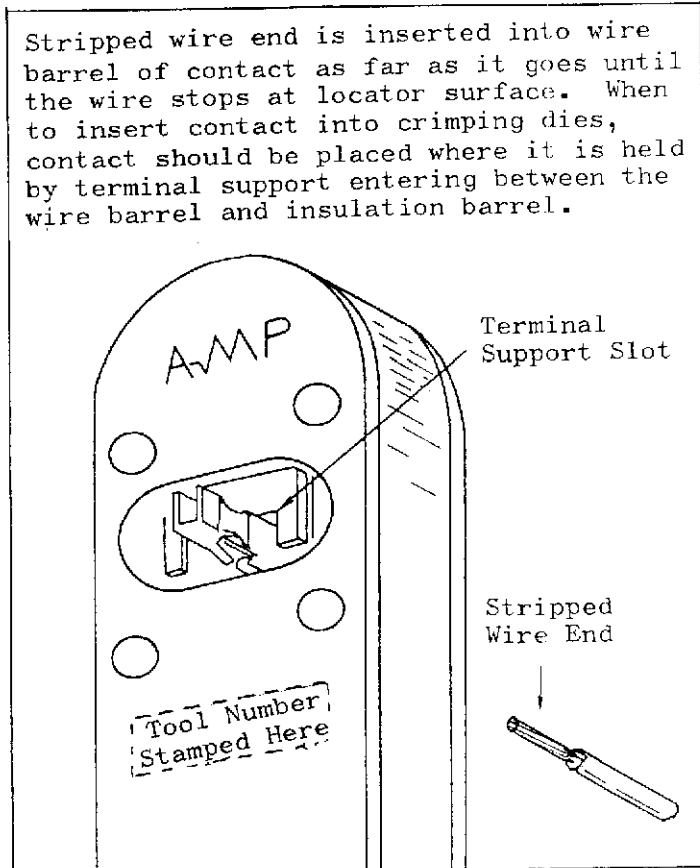

Fig. 4
- f) Insert a properly stripped wire through the locator and into the contact wire barrel, until it butts against the wire stop. (See Fig. 4.)